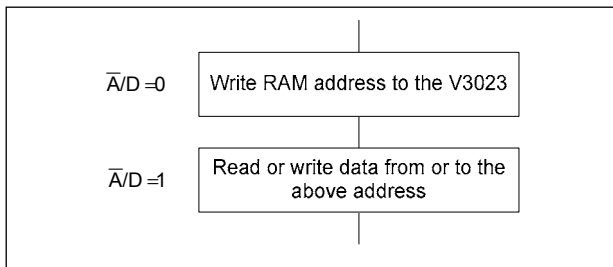

Fig. 8
Data transfer is in 8 bit parallel form. All time data is in packed BCD format with tens data on lines AD7-4 and units on lines AD3-0. To access information within the RAM (see Fig.7) first write the RAM address, then read or write from or to this location. Fig.8 shows the two steps needed.
The communication sequence shown in Fig.8 is re-entrant. When the address is written to the V3023 (ie. first step of the communication sequence) it is stored in an internal address latch. Software can read the internal address latch at any time by holding the  $\bar{A}/D$  line low during a read from the V3023. So, for example, an interrupt routine can read the address latch and push it on to a stack, popping it when finished to restore the V3023. N.B. Alarm and timer interrupt routines can reprogram the alarm and timer without it being necessary to read or reprogram the clock.
**Note:** Commands are only valid as commands when the  $\overline{A/D}$  line is low. Writing F2 hex with the  $\overline{A/D}$  line high, as in the last box of Fig. 8, serves only to activate the V3023 write pin which determines the direction of transfer.